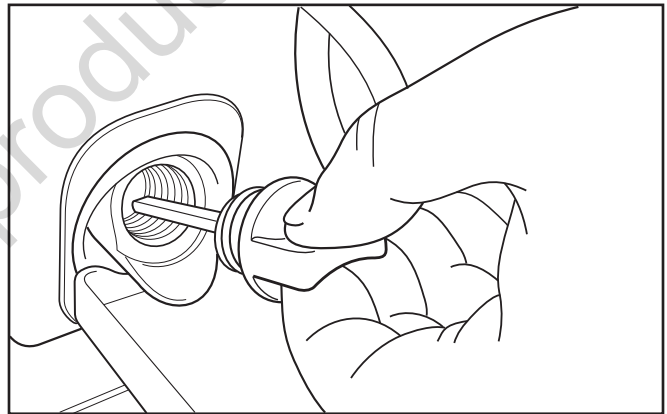

Figure 5
4. Verify oil is at the point of overflowing at oil fill opening (Figure 5).